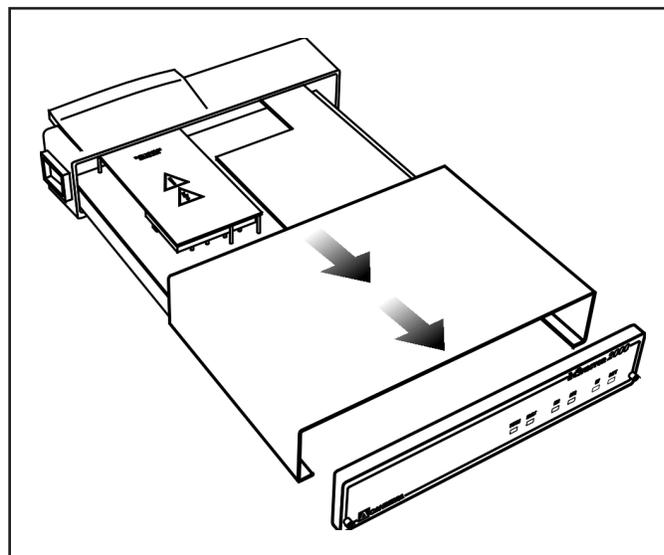

Figure 48 High Voltage Interlock Board Exposed
2. Slide the top cover forward to expose the high voltage Interlock board as shown in Figure 48. The top cover slides in channels provided on each side of the aluminum base. Its not necessary to fully remove the cover, but if it inadvertently comes off make certain it engages the channels on each side of the base when reinstalling it.